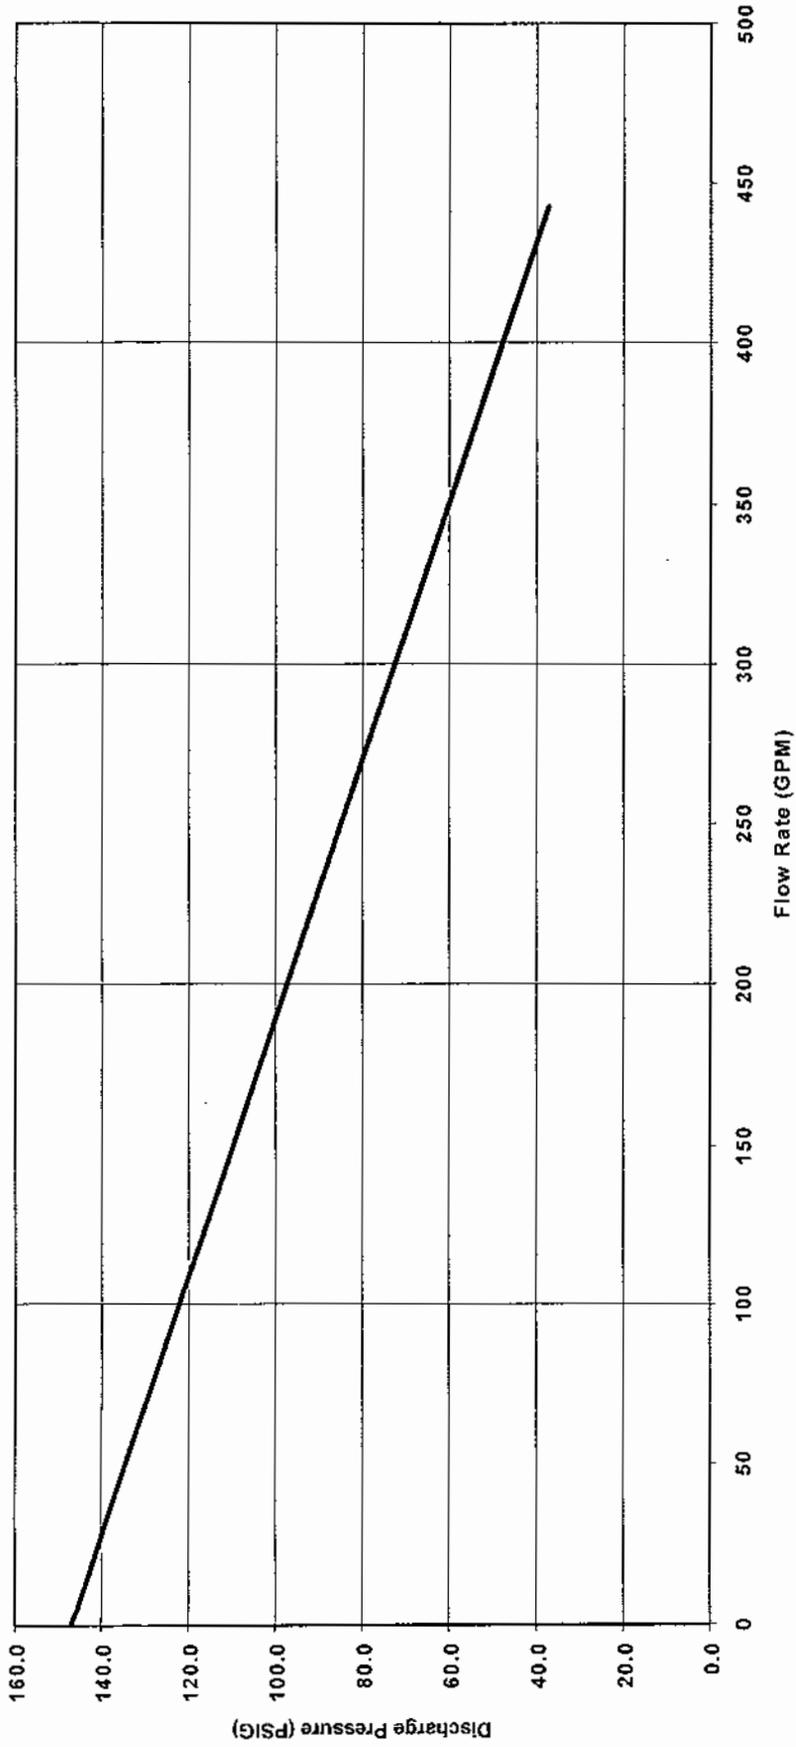

Figure D-11. DOP 250 Pump Curve for 24,000 cSt. Viscosity.
- Figure D-11 DOP 250 Pump Curve for 24,000 cSt. Viscosity